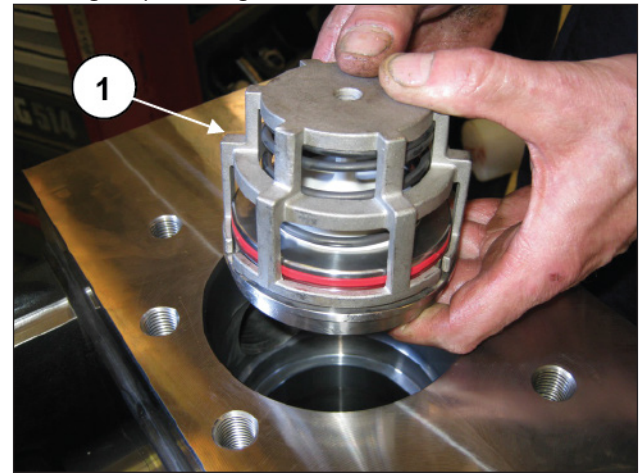
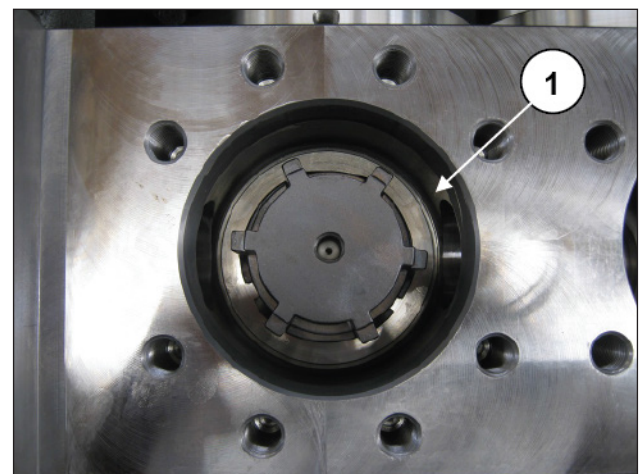

Fig. 185
Fig. 186
Insert the outlet valve unit (pos. ①, Fig. 185). The valve unit must be fully inserted into the bottom and should look like the image in pos. ①, Fig. 186.